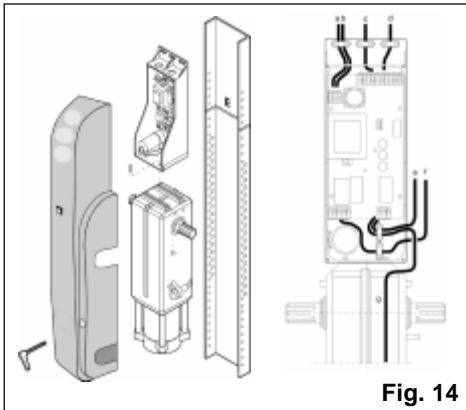

Fig. 14
- With the drive shaft at the top (fig. 14)